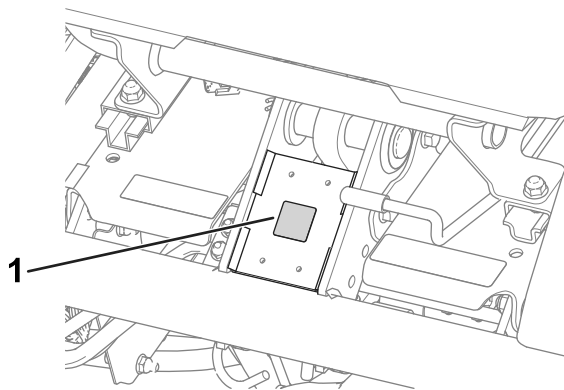

Figure 9
- Apply the CE mark decal to the frame under the front of the seat (Figure 9).